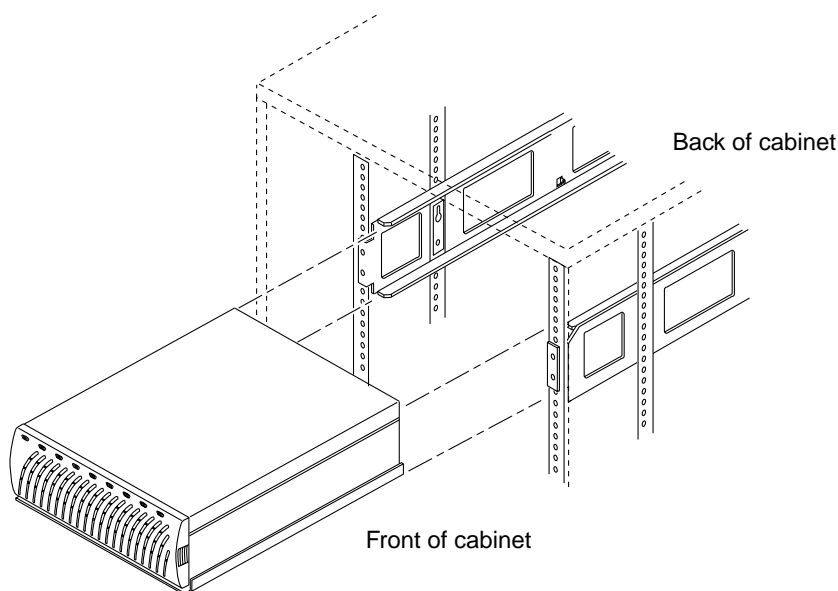

FIGURE 2-3 Aligning the Disk Tray Chassis and Support Plate With the Side Rails
2. Align the disk tray with the side rails, and slide the disk tray in the cabinet (FIGURE 2-3).